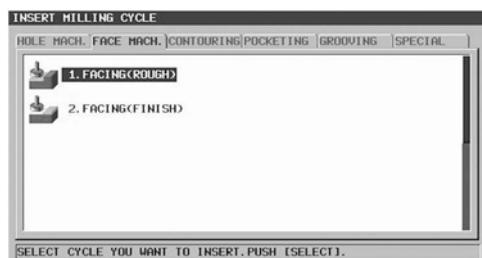

Figure 7-48 FACING (ROUGH)
3. **Begin to program** with the Face Machining by pressing the CYCLE soft key. Use the arrow key to change to the FACE MACH. tab and choose 1. FACING (ROUGH) (Figure 7-48). Then press the SELECT soft key.